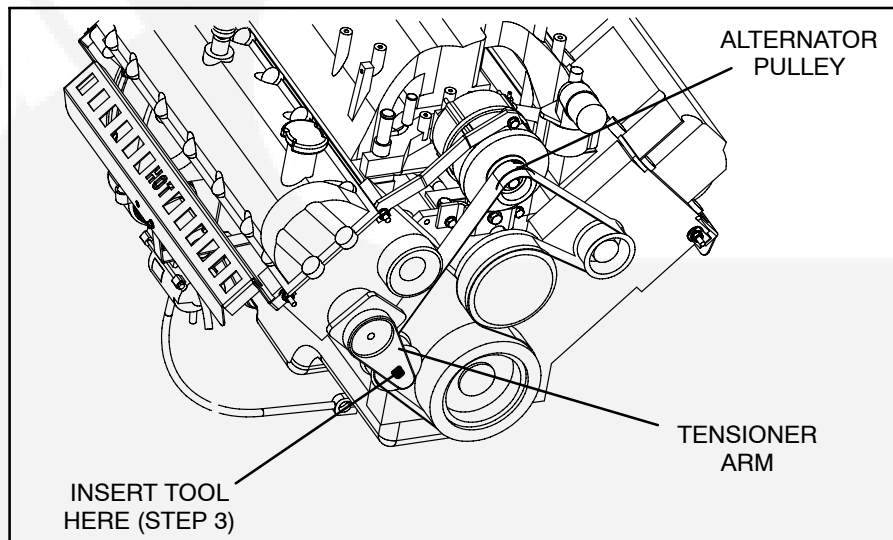

FIGURE 5-7. SERPENTINE BELT REPLACEMENT
3. Insert a 1/2 inch male square ratchet or breaker bar into tensioner arm (Figure 5-7). With handle of ratchet extended to the right of the tensioner arm, slowly lift up on the ratchet handle until the spring tension is relieved. Remove serpentine belt.